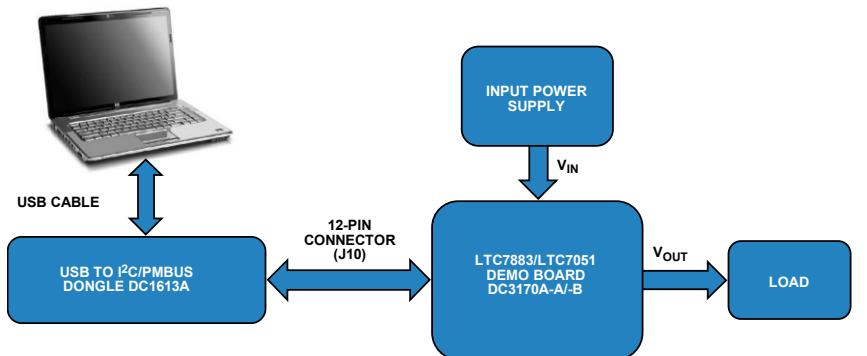

Figure 3. How to Interface the DC3170A-A/B to a PC
2. Connect the DC3170A-A/-B as shown in Figure 3.